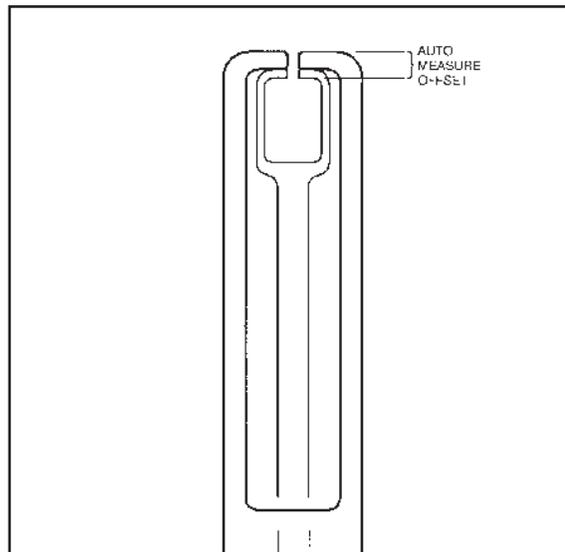

Figure 4.1
4. Carefully align the stage slot with the slot in the top of the probe, and position the stage opening to the front. (See Figure 4.1.)